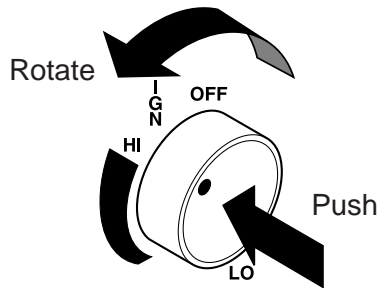

Figure 26 - HIGH Position
10. Push in control knob and turn counterclockwise  to the HIGH setting. At this location the control knob will pop out when positioned correctly. The knob can now be positioned at any position between HIGH and LOW. Refer to *Figures 26 and 27*.